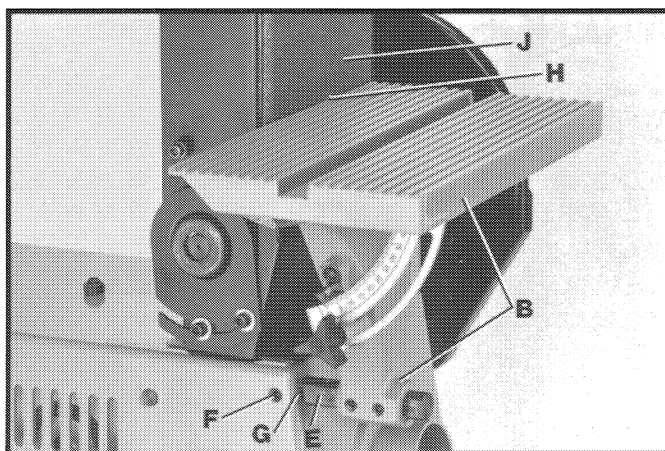

Fig. 34
3. Loosen set screw (F) Fig. 34, and insert support bar (E) and table assembly (B) into hole (G) on belt unit. Tighten set screw (F) to hold support bar and table assembly in position. **WARNING: THE TABLE EDGE (H) FIG. 34, MUST BE POSITIONED A MAXIMUM OF 1/16" AWAY FROM SANDING BELT (J) TO AVOID TRAPPING THE WORK OR FINGERS BETWEEN THE TABLE AND SANDING BELT.**